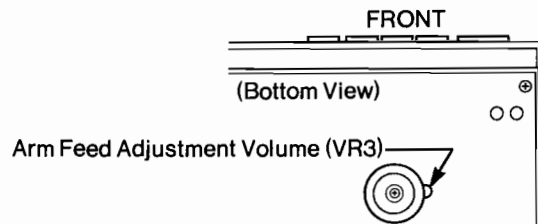

Fig.4
3. At this point, adjust VR3 on the Control PCB so that the arm rises straight up (see Fig.4).